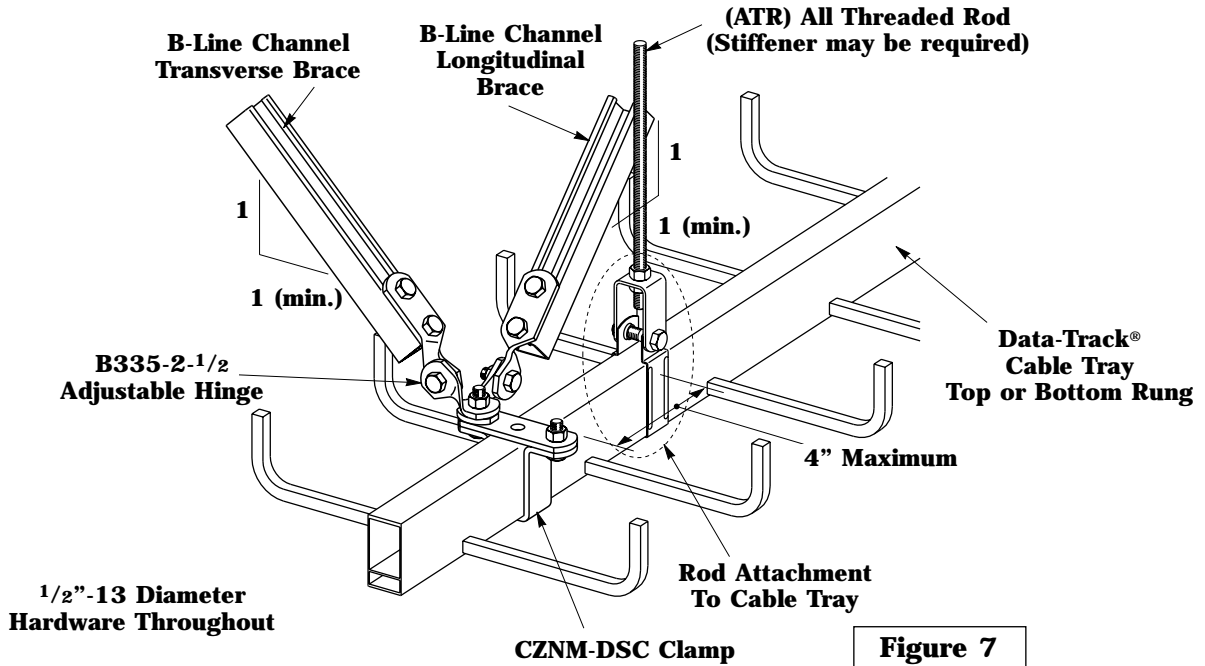

Figure 7
- 1). Rod attachment to tray may include CZNH-CD clevis hanger (shown in Figure 7), CAS-SB splice connector, ATR through field drilled holes, or other methods per B-Line recommendations.